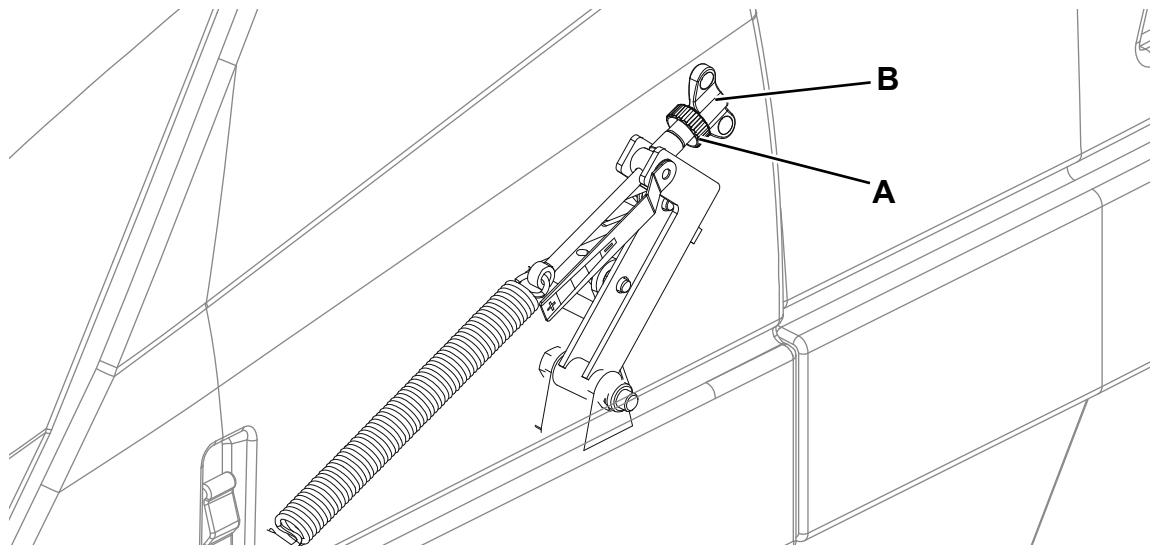

Figure 3
3. Turn the ignition key (64) and start the machine.
4. Lower the main broom with the lever (53) and let it run for 1 minute.
7. To adjust, open the engine compartment hood (1) by using the unlocking push-button (25), loosen the knob (A, Fig. 3) and operate on the main broom adjuster (B) by considering the following:
- When turning counter-clockwise, the side broom pressure and pattern is increased.After adjusting, lock the adjuster with the knob (A).